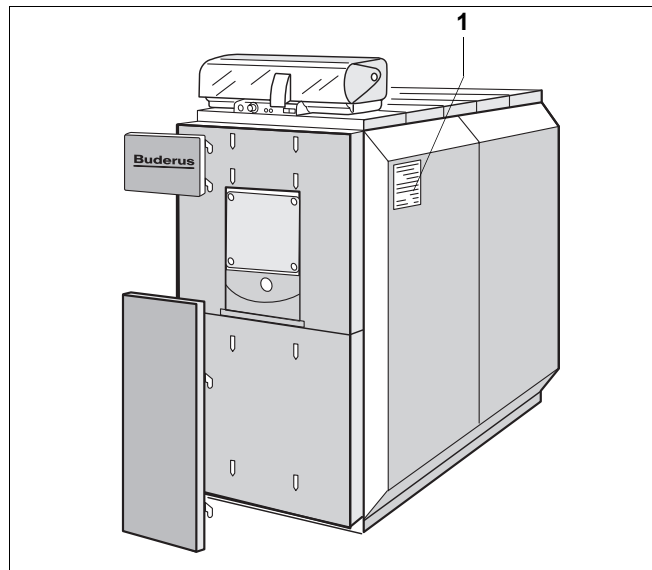

Fig. 22 Attach paper rating plate
- Attach paper rating plate (Fig. 22, **Item 1**) to left or right side panel according to boiler room situation.